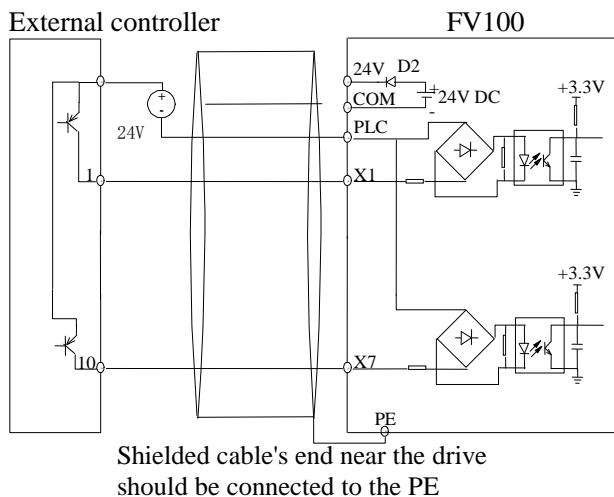

Fig 4-12 Use external power supply for drain connection
4) Use external power supply for drain connection (Make sure the PLC and 24V terminal is disconnected). As shown in the fig 4-12